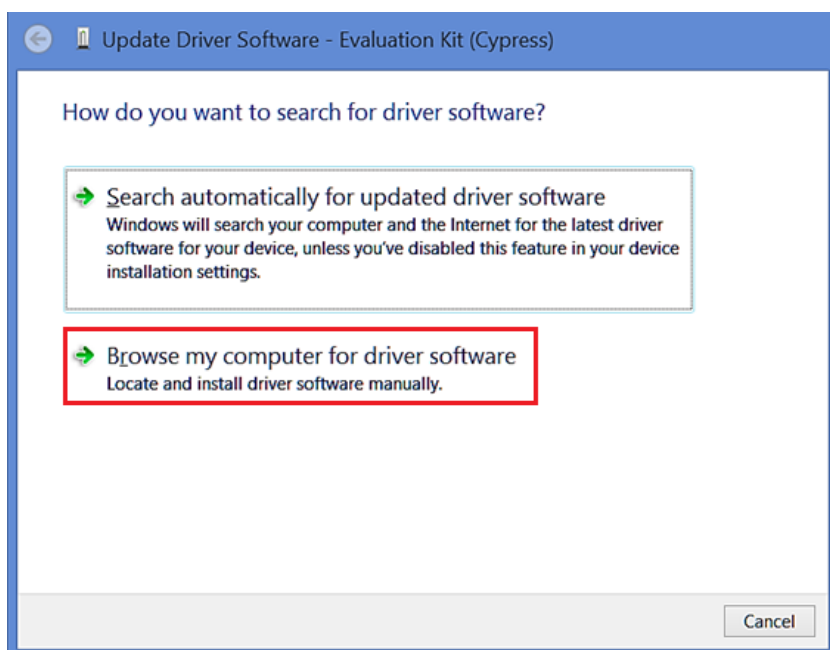

Figure 89. Update Driver Software - 1
- Right-click the "Evaluation Kit (Cypress)" item, and choose "Update Driver Software ...". A new window should open. Select "Browse my computer for driver software" (*Figure 89*).